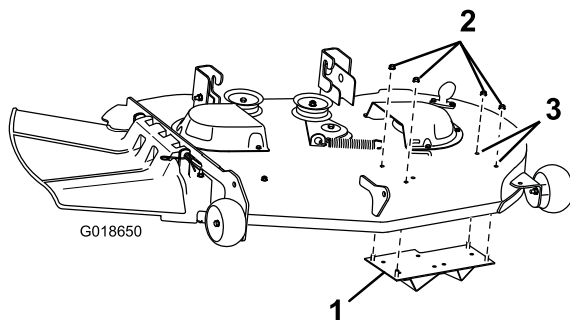

Figure 3
10. Remove 2 plug bolts and 2 nuts from the mower deck in the locations shown in Figure 3.
11. Secure the kicker plate to the left-hand side of the mower deck using 4 flange nuts (5/16 inch) as shown in Figure 3.